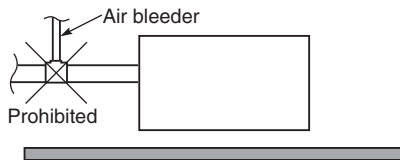

Fig. 3-44
- Do not install an air bleeder as this may cause water to spray from the drain pipe outlet. (Fig. 3-44)